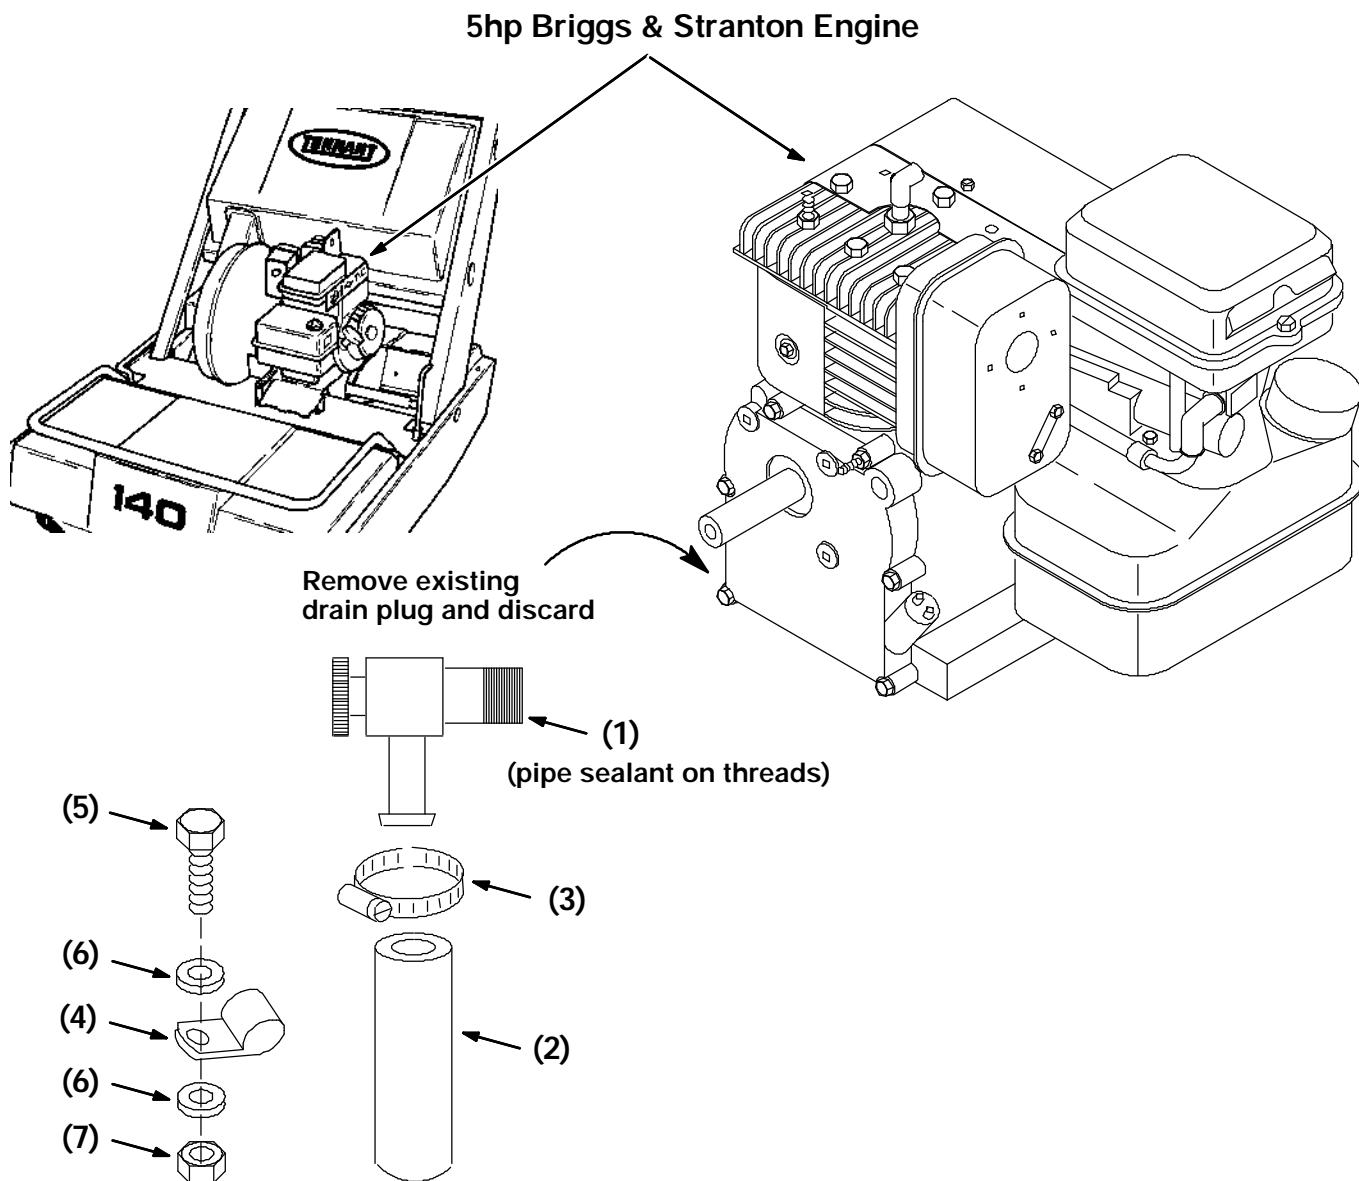

FIG. 1 - Engine And Drain Plug Assembly
(Refer to FIG. 1)
2. Place a drain pan under the engine and remove the existing engine drain plug. Drain the oil. Discard the drain plug. (Refer to FIG. 1)
1. Place a small amount of pipe sealant on the threads of the new drain plug (1). (Refer to FIG. 1)
2. Install the new drain plug in the engine and point the outlet to the right hand side of the machine. (Refer to FIG. 1)
3. Install the worm drive clamp (3) and rubber hose (2) on the outlet tube on the new drain plug (1). Hand tighten the clamp. (Refer to FIG. 1)
4. Install the new cable clamp (4) on the other end of the rubber hose (2). Point the end of the hose down under the rear of the machine frame. Make sure the hose is behind the large sheave and is clear of any moving parts. (Refer to FIG. 1)
5. Install the hex screw (5), washer (6), and nyloc nut (7) through the cable clamp (4) and into a hole on the rear of the machine frame. Firmly tighten the hardware. (Refer to FIG. 1)
NOTE: Close the valve on the new drain plug (1). (Refer to FIG. 1)